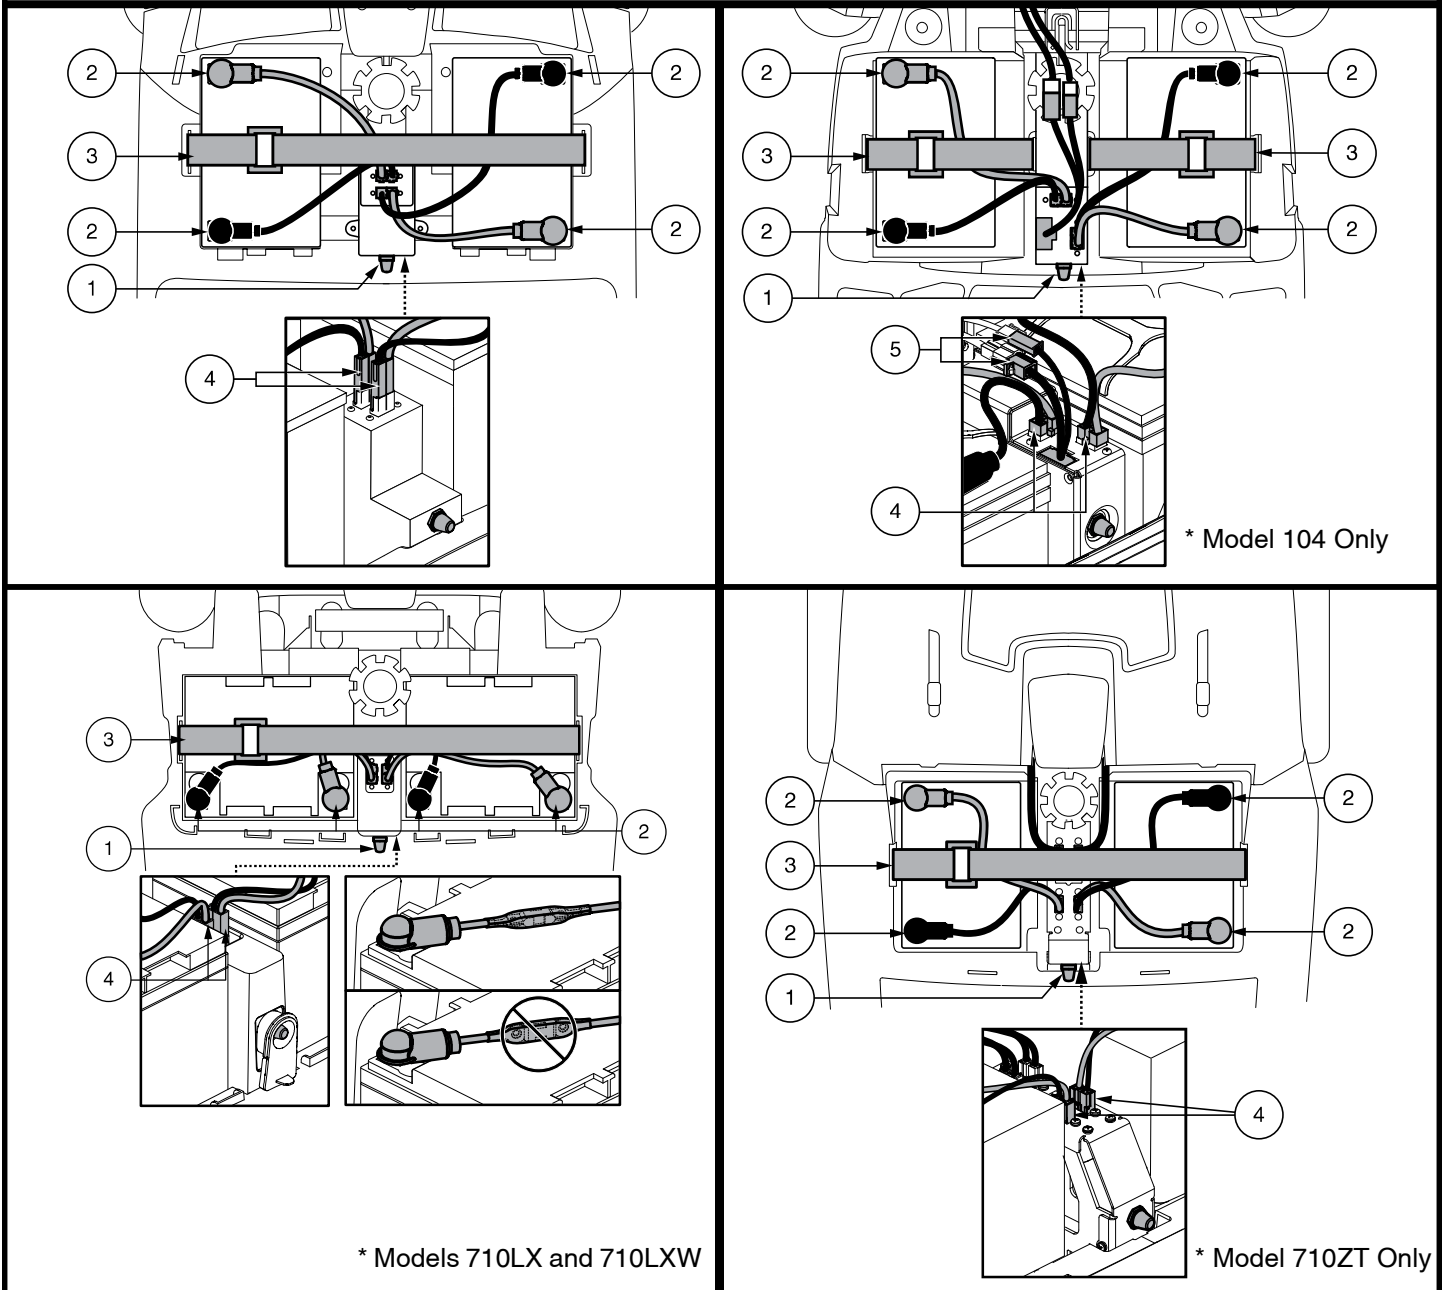

Figure 16. Battery Removal/Installation Terminals and Connections
2. Disconnect the battery tie-down strap. See figure 16.
3. Disconnect the battery harnesses by depressing the tabs on the battery harness connectors and pulling them straight up. See figure 16.
6. Place a new battery in each battery well. For 710LX and 710LXW models, face the battery terminals of each battery rearward. For all other models, face the battery terminals of each battery opposite each other and toward the outer sides of the scooter. See figure 16.